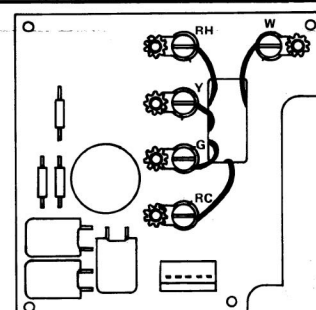

Fig. 17
2. Pull wires through back opening near center of Wall Plate and connect labeled wires to corresponding terminal screws (Fig. 17).